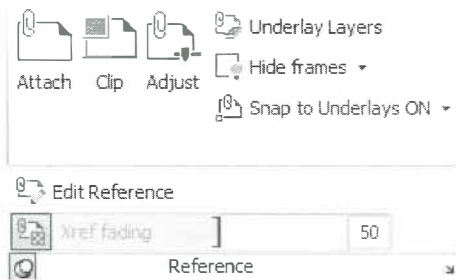

Figure 11-8
- You can use the Reference tools in the *Insert* tab>Reference panel to attach or modify various types of externally referenced files, as shown in Figure 11-8.